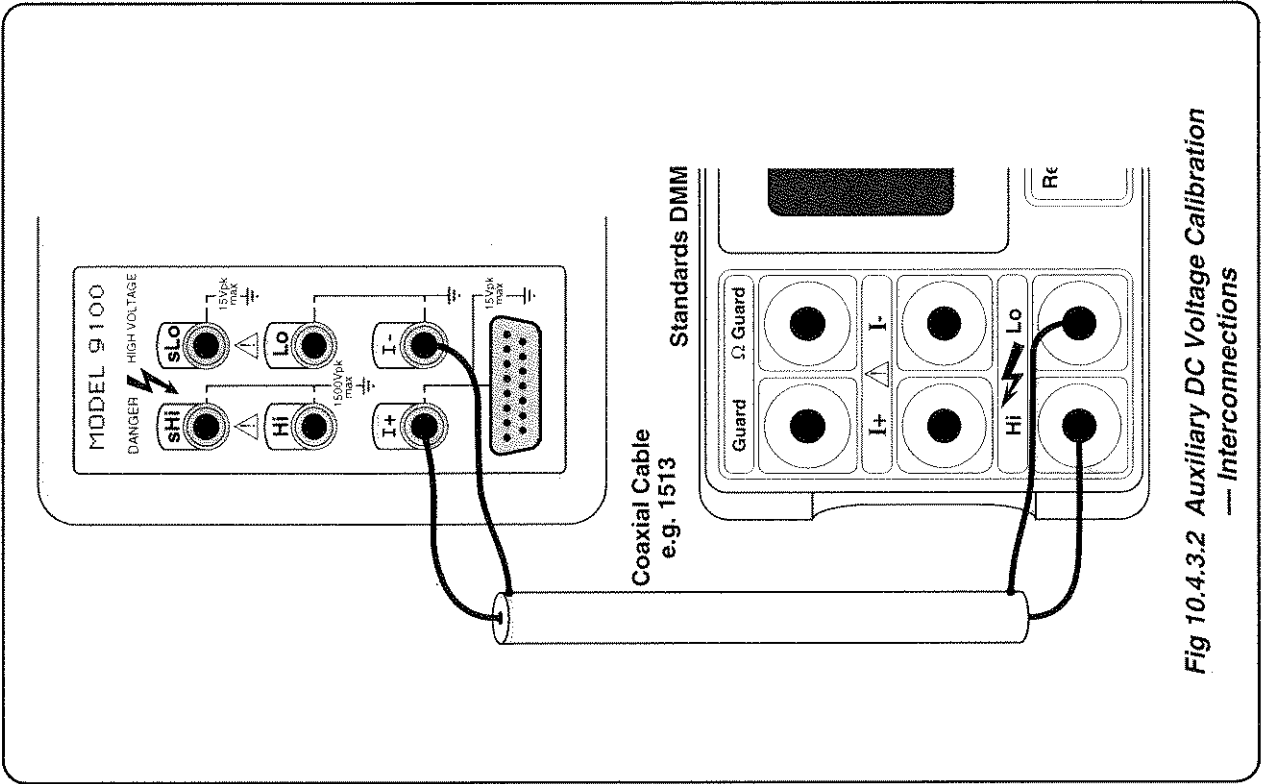

Fig 10.4.3.2 Auxiliary DC Voltage Calibration
- Connections** Ensure that the 9100 is connected to the Standards DMM as shown in Fig. 10.4.3.1, and that both instruments are powered on and warmed up.
1. **Connections** Ensure that the 9100 is connected to the Standards DMM as shown in *Fig. 10.4.3.2*, and that both instruments are powered on and warmed up.
- Connections** Ensure that the 9100 is connected to the Standards DMM as shown in Fig. 10.4.3.2, and that both instruments are powered on and warmed up.